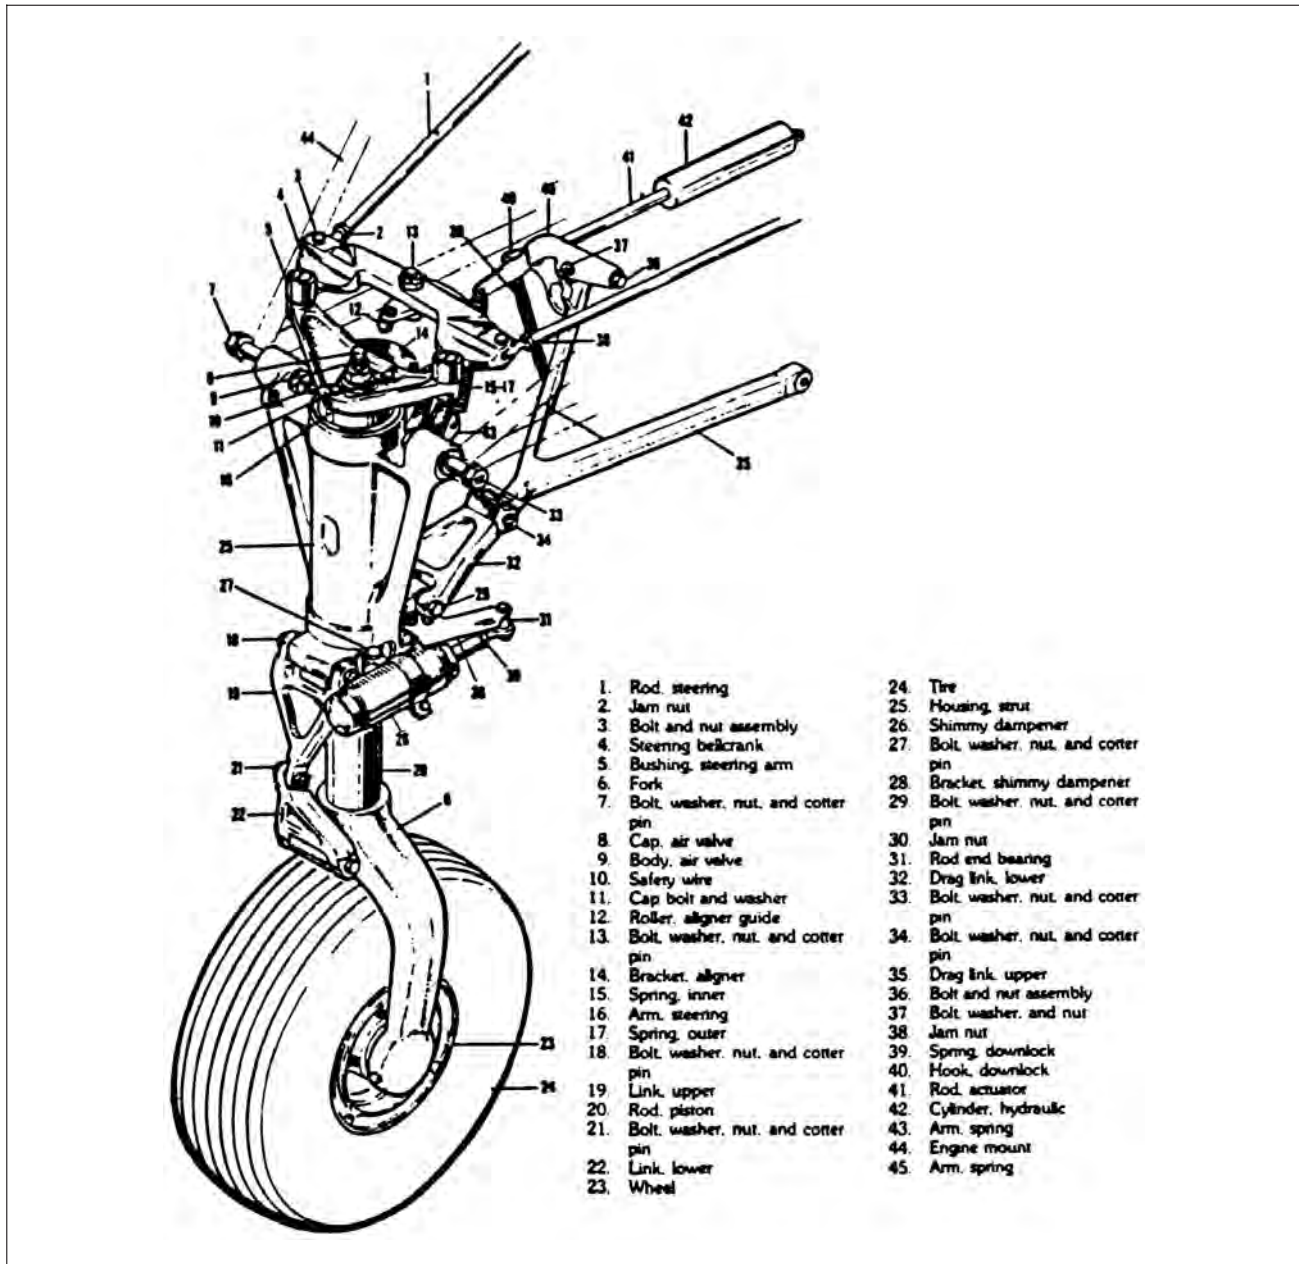

Figure 13-3 Nose gear for light airplane showing the steering mechanism.
Some steering mechanisms are engaged-disengaged as the nose gear retracts and extends on the retractable type gear. One method used is illustrated in Figure 13-3. The steering bellcrank is connected to the steering rods, and through the rod to the rudder pedals. When the gear is extended, the steering bellcrank engages the steering arm which is attached to the upper part of the strut. Moving the steering arm will turn the nose wheel strut and the nose wheel for steering. As the nose gear retracts the steering bellcrank disengages from the bushing on the steering arm and steering action is disengaged. The strut roller and bracket alignment guide (see items 12 and 14 of Figure 13-3) centers the strut for retraction.